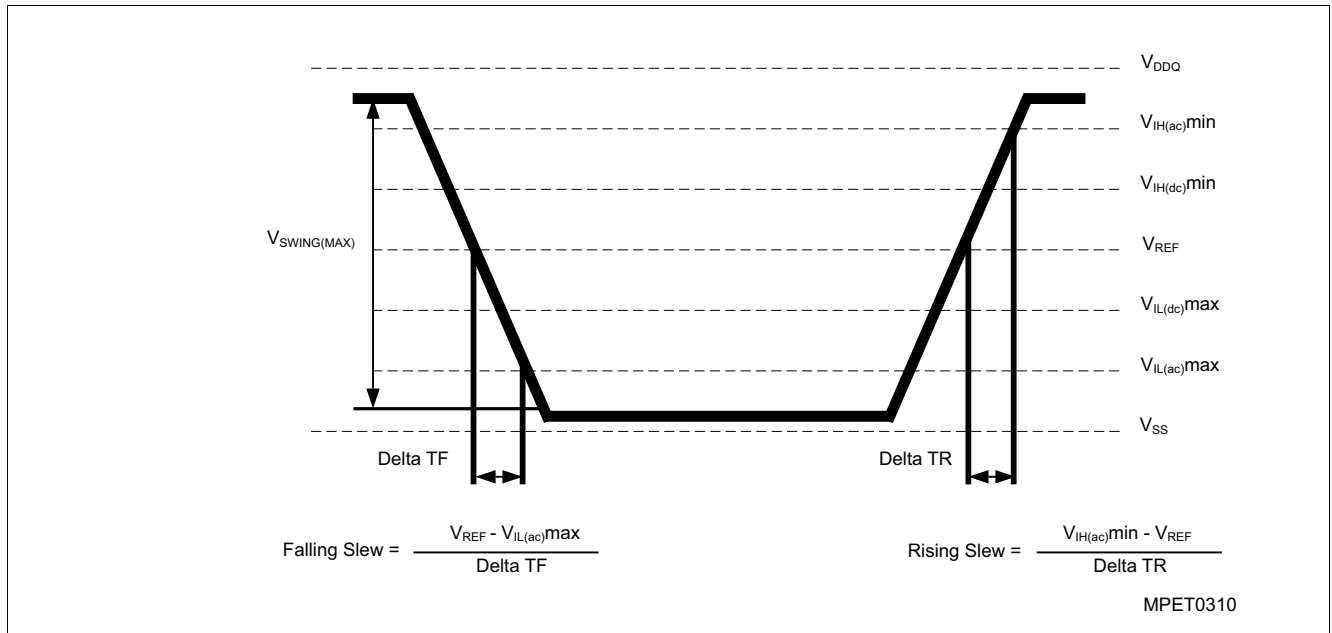

Figure 4 Single-ended AC Input Test Conditions Diagram
- 2) The input signal minimum Slew Rate is to be maintained over the range from $V_{\text{IH(ac).MIN}}$ to V_{REF} for rising edges and the range from V_{REF} to $V_{\text{IL(ac).MAX}}$ for falling edges as shown in Figure 4